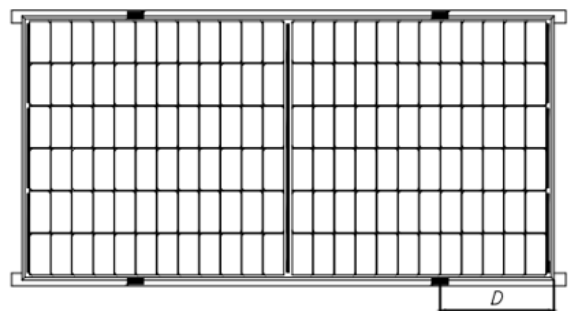

Fig.3 Rails overlapping the long-side frame
When double-sided PV modules are installed, each PV module must be fixed with at least 4 presses, as shown in Figures 3、4、5、6.
⑧ For the mounting shown in Figure 3, the overlap between the C surface of the assembly and the rail should be  $\geq 25$ mm. Astronergy's limited warranty will be void if improper clamps or improper installation is used.